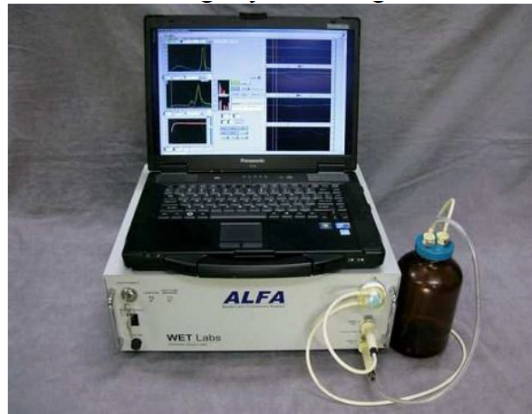

Figure 1: ALFA with computer and sample bottle (bottles only used for cleaning)
8. Verify your clean water spectra while flowing DI water. Any contaminant spectra should gradually fade and the main feature present on the spectral plots should be Raman scattering (as seen in figure 1).